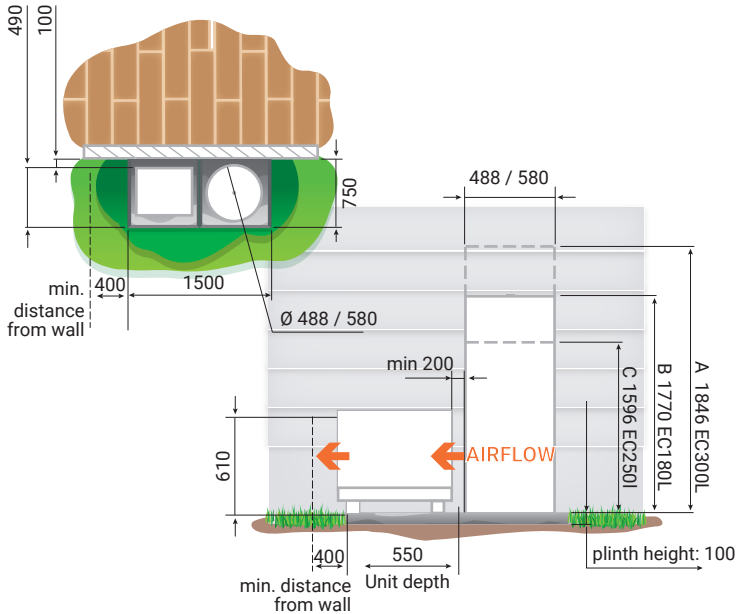

Figure 2: Typical Installation Detail—Outdoor HWC and Unit
- Figure 2: Typical Installation Detail—Outdoor HWC and Unit..... 14*